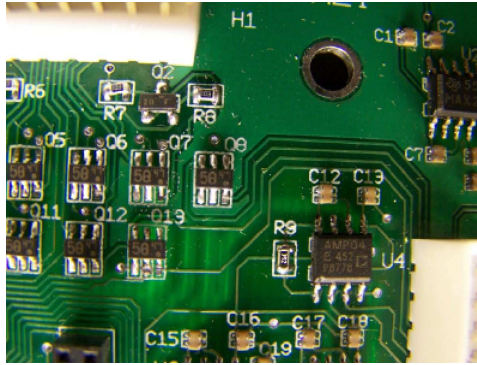

Figure 9.1: A printed circuit board
The printed circuit board (PCB) is the answer. Most likely you are already familiar with printed circuit boards, as almost every consumer electronics item has at least one in them. They are used to both hold components in place and provide the electrical connections between the components. A picture of one is shown in Figure 9.1.
- **Components** - Various electronic components are attached to the board. In Figure 9.1, the components are surrounded by white borders. These borders are made from an ink that is silk screened on. Each component is also labeled with a designator, like R9. The letter signifies the component type (R for resistor) and the number signifies it is the 9th resistor.